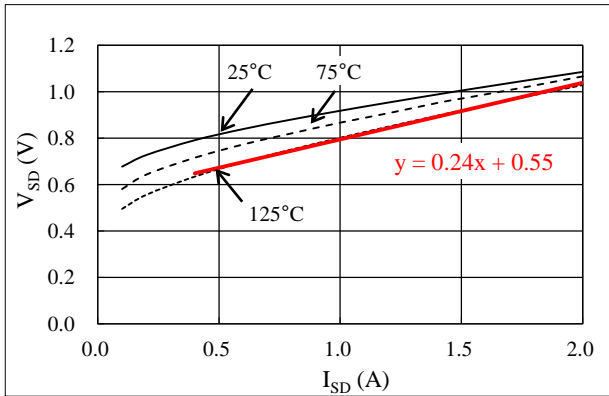

Figure 14-3. Linear Approximate Equation of V_{SD} vs. I_{SD} Curve
Steady-state loss in the body diode of a power MOSFET can be computed by using the V_{SD} vs. I_{SD} curves, listed in Section 15.3.1. As expressed by the curves in Figure 14-3, linear approximations at a range the I_{SD} is actually used are obtained by: $V_{SD} = \alpha \times I_{SD} + \beta$. The values gained by the above calculation are then applied as parameters in Equation (9), below. Hence, the equation to obtain the body diode steady-state loss, P_{SD} , is: